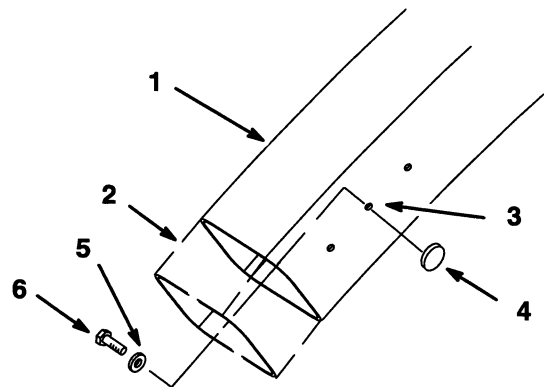

Figure 10
1. Cut 2-3/4" (7 cm) off the bottom of the discharge tube (Fig. 10).
2. Attach the knob to the center hole in the discharge tube and secure with 1/4" washer and 1/4 x 3/4" screw (Fig. 10).